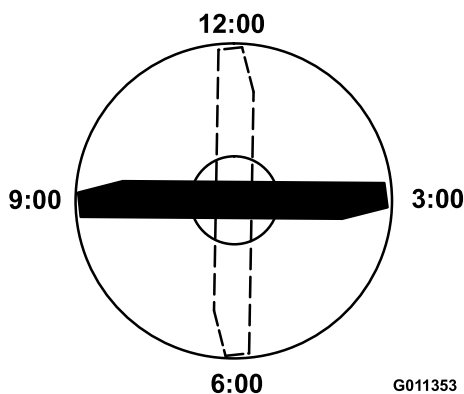

Figure 62
4. Position the cutting edge of the marked end of the blade at 12 o'clock (straight ahead in the direction of mowing) (Figure 62) and measure height from table to cutting edge of blade.
5. Rotate the marked end of the blade to the 3 and 9 o'clock positions (Figure 62) and measure the heights.